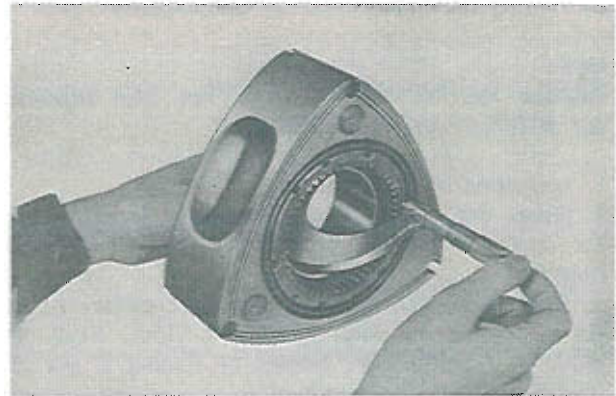

Fig. 1-55 Measuring of rotor width
6. Check the gap between the side housing and the rotor by measuring the rotor housing width and rotor width. The rotor width should be measured at the position shown in Fig. 1-55.